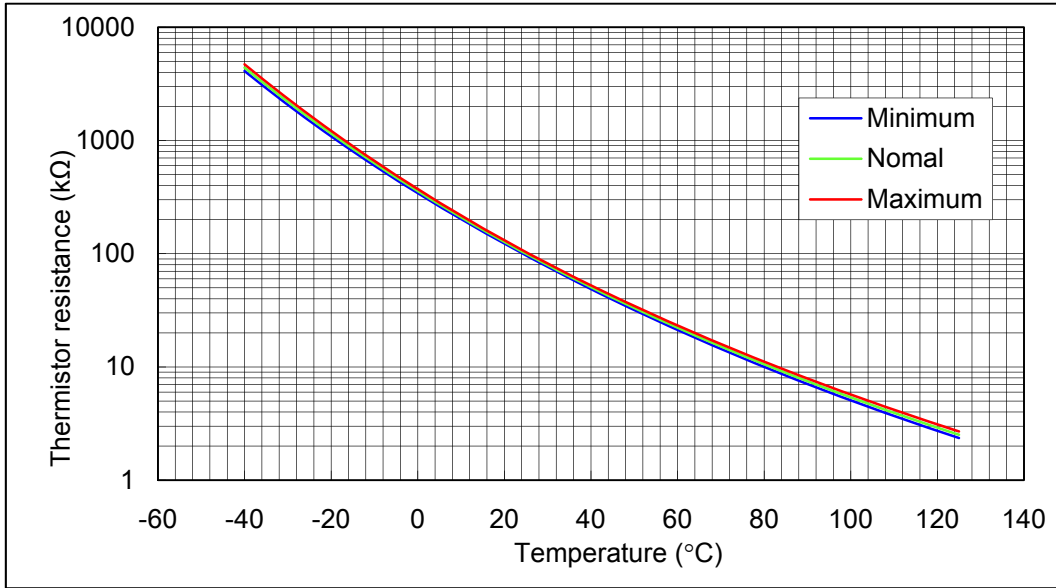
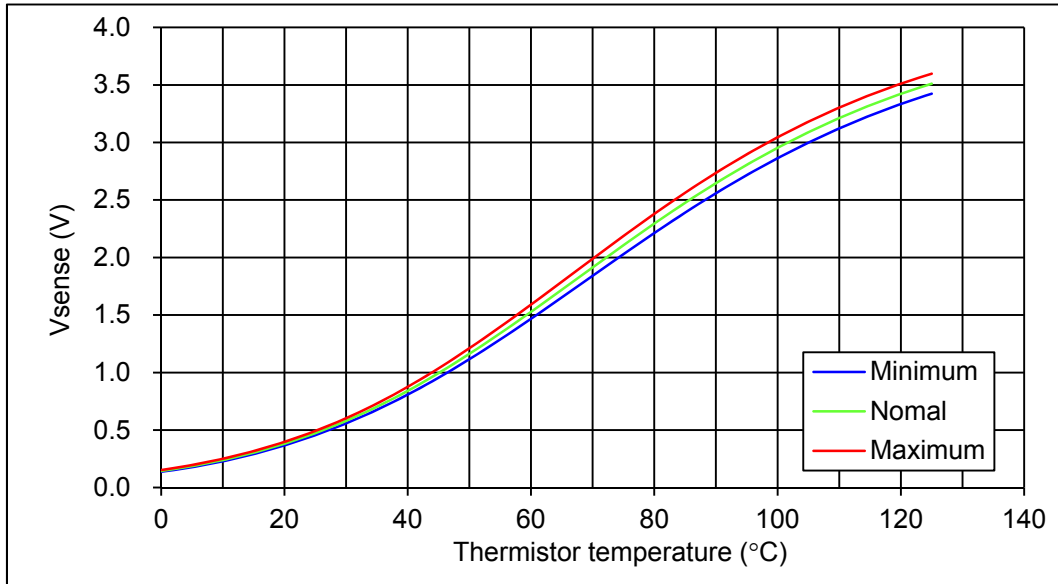
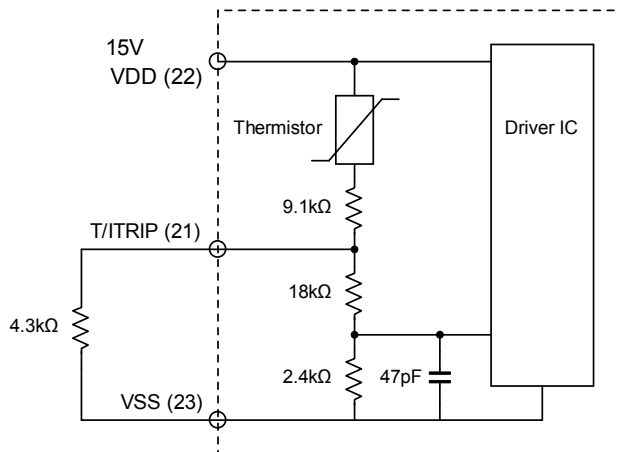

Fig. 10 Variation of thermistor resistance with temperature
Fig. 11 Variation of temperature sense voltage with thermistor temperature by using external bias resistance of 4.3 kΩ ±1% and VDD = 15 V
Fig. 12 Sample application circuit for temperature monitoring
- Inside the IPM, a thermistor used as the temperature monitor is connected between VDD terminal and T/ITRIP terminal, therefore, an external pull down resistor connected between the T/ITRIP terminal and VSS terminal should be used. The temperature monitor example application is as follows, please refer the Fig.10, Fig.11, and Fig.12 below.